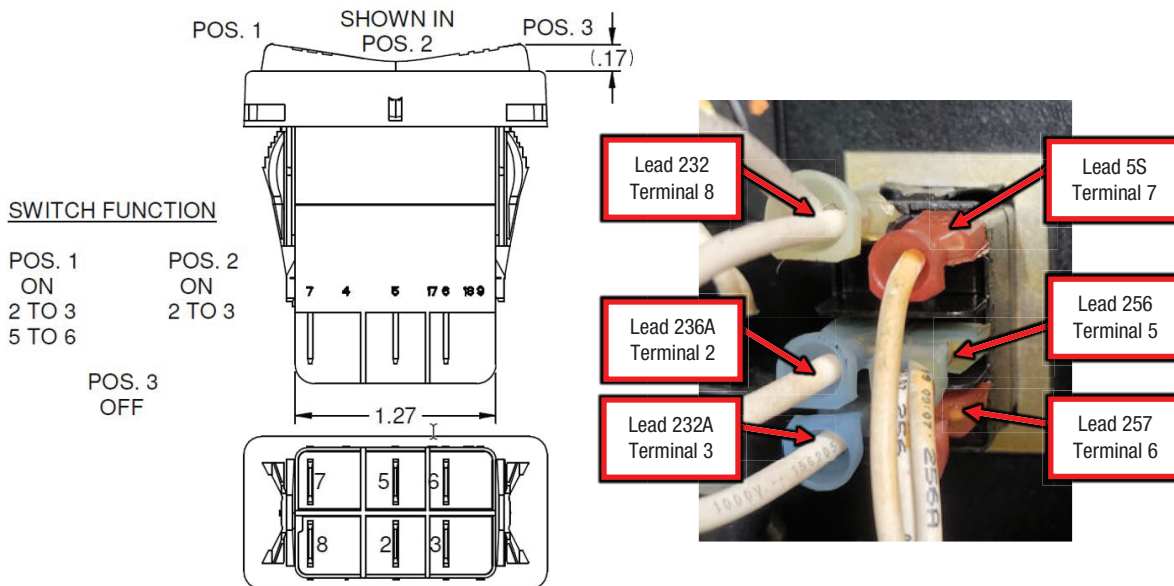

Figure F.2
A.2. Perform the static measurements in Test Table 1, refer to Figure F.2 for test point locations. NOTE: ENSURE THE BATTERY IS NOT CONNECTED BEFORE TAKING ANY MEASUREMENTS.